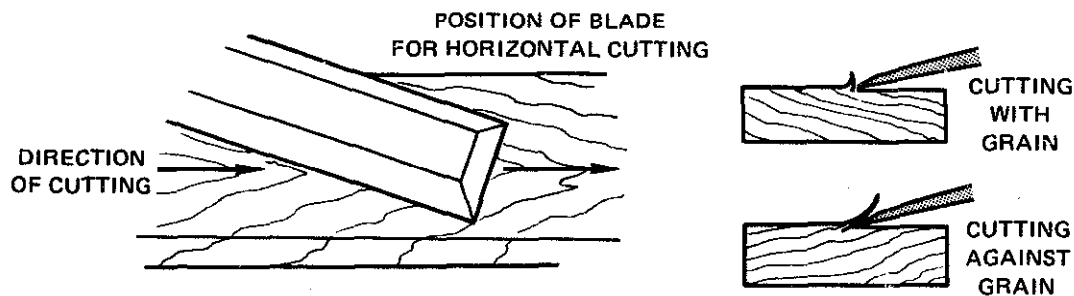

Fig. 9-16 Position of the blade for cutting.
- d. Use the right hand to force the chisel into the wood. Push it along the surface at a slight diagonal to the direction of the cut, figure 9-16, so that a shearing cut results